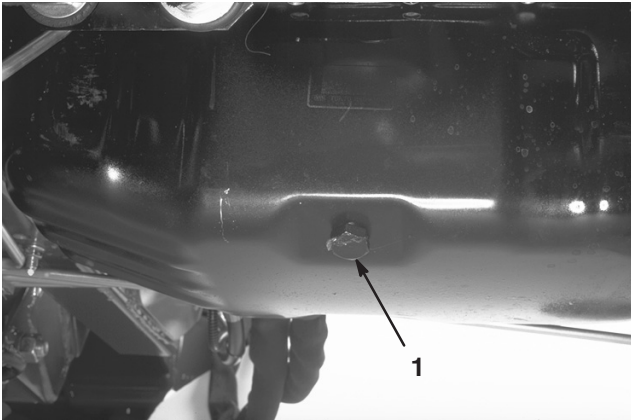

Figure 40
2. Place drain pan in line with the drain plug (Fig. 40). Clean area around drain plug.